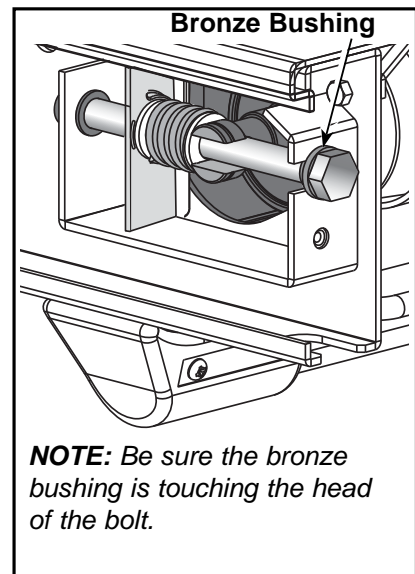

Figure 12
- B. Slide the hardware for each side into position. **NOTE:** Place the end of the bolt in first and then hold the rear roller up while you pivot the group of hardware into the rear roller slot. Be sure the bronze bushing is touching the head of the bolt. See Figure 12.
- C. Using a 3/4" socket wrench, tighten each rear roller bolt evenly, making sure not to tighten either bolt too many turns before moving to the other bolt. **NOTE:** Do not overtighten the belt. You will tension and center the belt in step 22. See Figure 12.